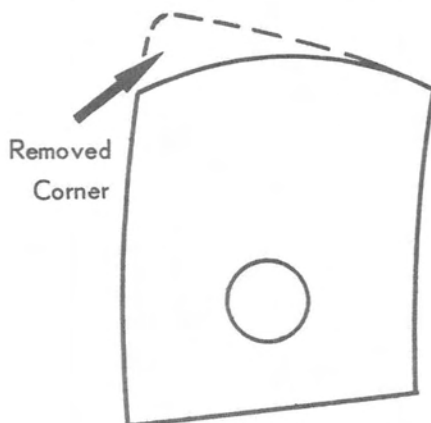

Figure 1. Wear Plate
Plastic wear plates (D-54900) for fixed sheave (8) have been modified to reduce possibility of binding on the sliding sheave. (Figure 1)